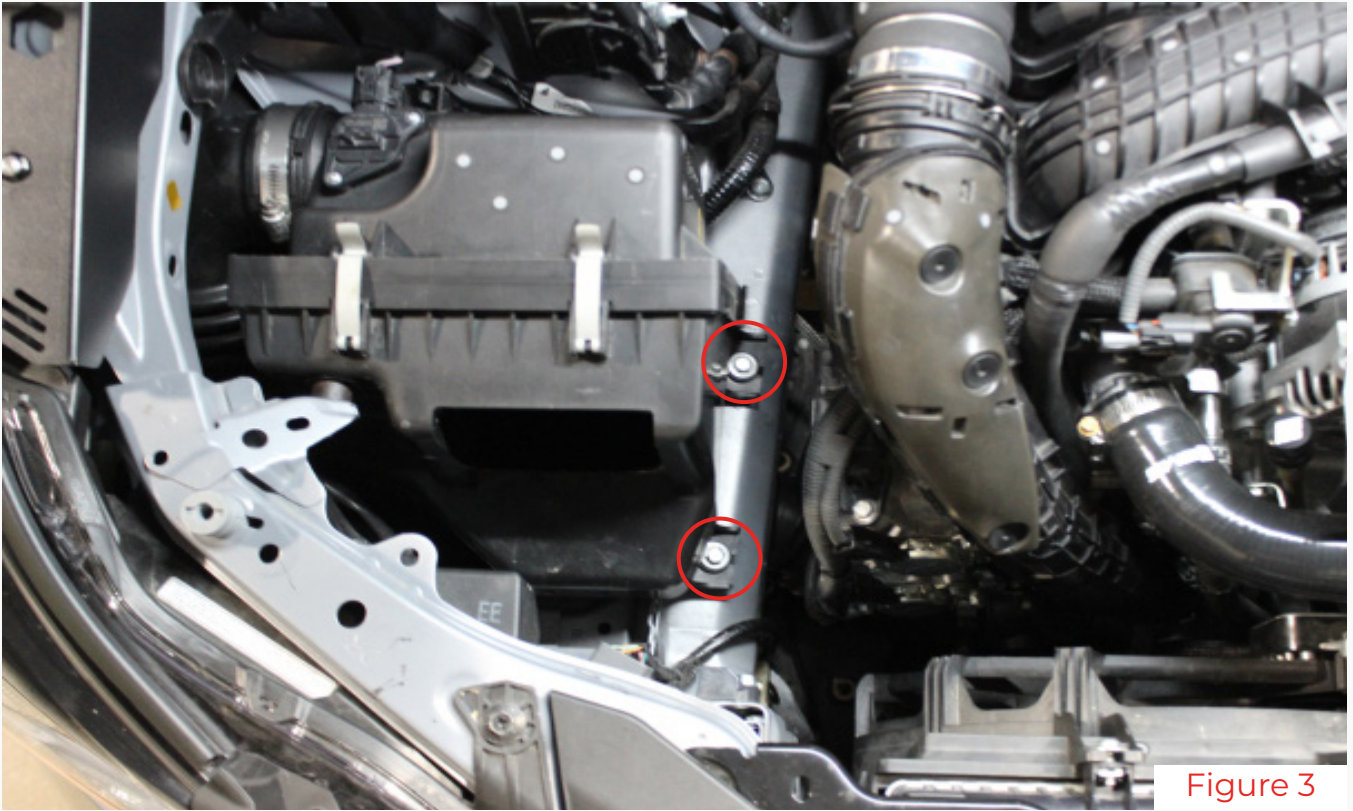

Figure 3
3. Remove the (2) 10mm bolts on the engine side of the factory intake box (Figure 3).